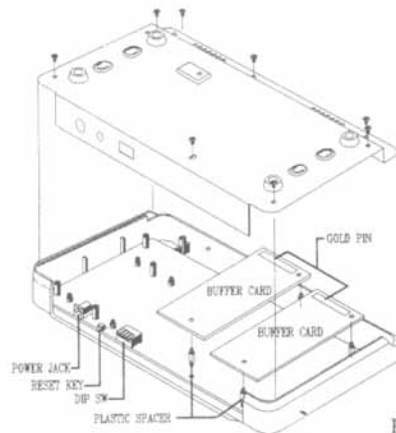

Fig. 3-1
- There are two 2x14 gold pin connectors, one for OUTPUT 1 and the other for OUTPUT 2. See Fig. 3-1 You may install one or two ASB buffer cards.
- ASB buffer card should be installed as shown in Fig. 3-1, right buffer card for OUTPUT 1 and left buffer card for OUTPUT 2.